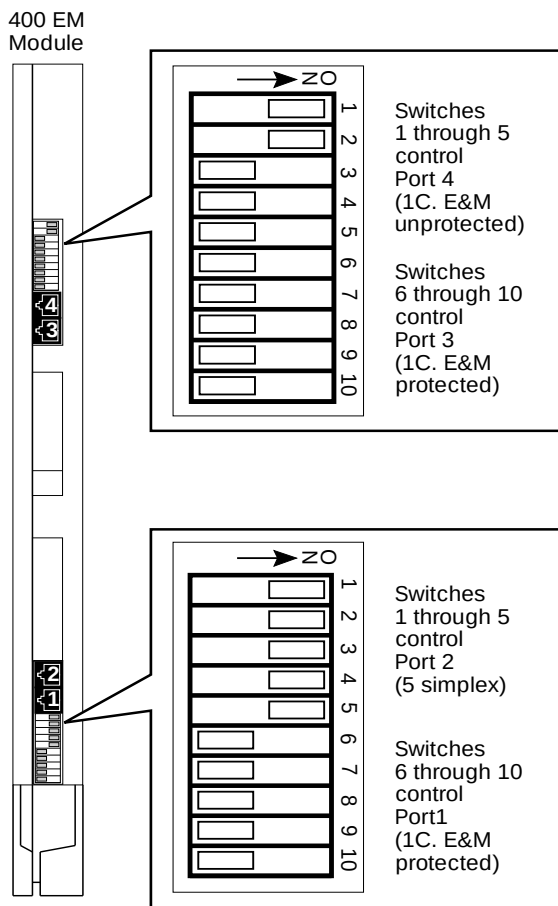

Figure 2-11. 400EM Module Sample Dip Switch Settings for Signaling Types 1C and 5
- ▶ 1. For each 400EM tie line/trunk module, for jacks numbered 1 through 4 in Figure 2-11, check Form 3c, Incoming Trunks: Tie, for E&M signaling type.
Set the dual in-line packaging (DIP) switches on the front of the 400EM Tie Trunk module according to the E&M signaling type settings listed in Table 2-4 and Table 2-5 and shown in Figure 2-11. The default E&M signal does not require any adjustments in the DIP switches.
During installation of 400EM (Tie Trunk) modules, refer to Table 2-4 and Table 2-5, and to Figure 2-11 for the correct DIP switch settings for varying signaling protocols.